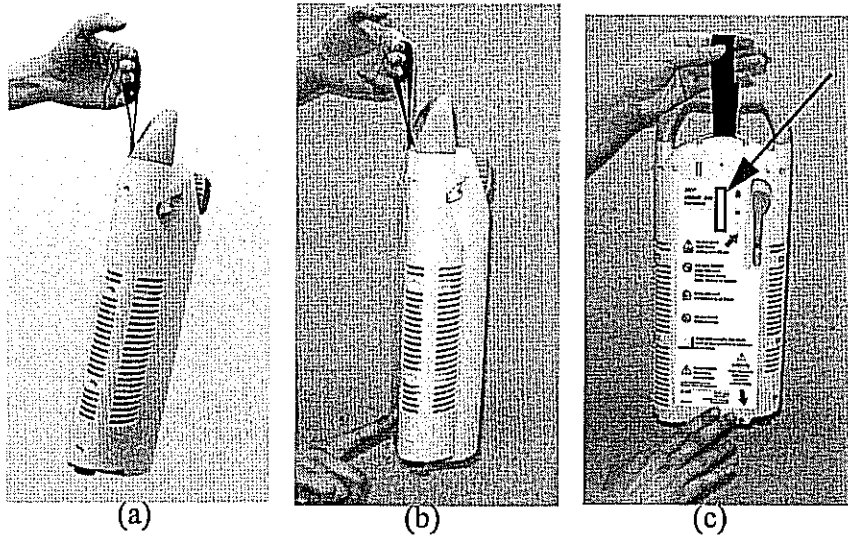

Figure 4: Checking H850 Portable oxygen contents
9. Check the oxygen contents indicator, Figure 4, to make sure the H850 Portable is filled to the desired level. The amount of liquid oxygen contained in the H850 Portable is measured by an internal scale that is built into it. To operate the contents indicator: